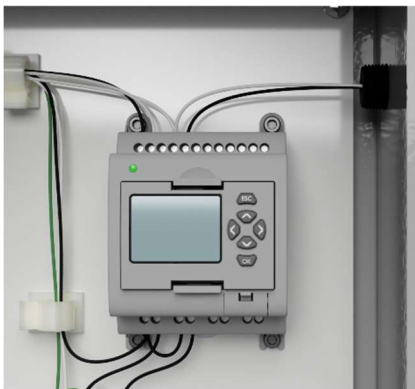

Figure 4
2. Insert your machine output through the available cable gland and connect to the controller at input 00 as shown in Figure 4.